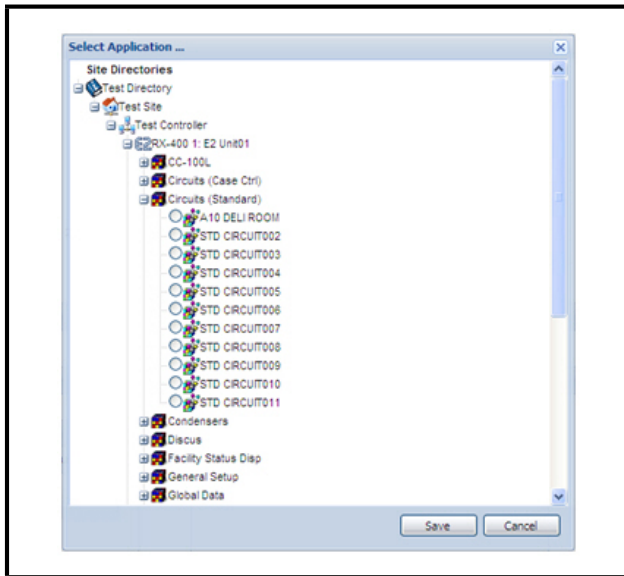

Figure 4-63 - Select Application Screen
- If **Select Application** is chosen as the schedule type, the *Select Application* screen (*Figure 4-63*) will open with the navigation tree displayed. Expand the navigation tree down to the application instance level, click the radio button of the application instance, and then click the **Save** button. The *Application Setpoint Group* screen of the selected application instance will open where you can select data points to use for setpoint broadcast (see *Schedules Setup on page 44* for details on setting up Application Setpoint Groups).
When you have chosen the desired application instance from the *Select Application* window (**Figure 4-63**) and clicked the **Save** button, the *Application Setpoint Group* screen for that particular application will open and display the current application information